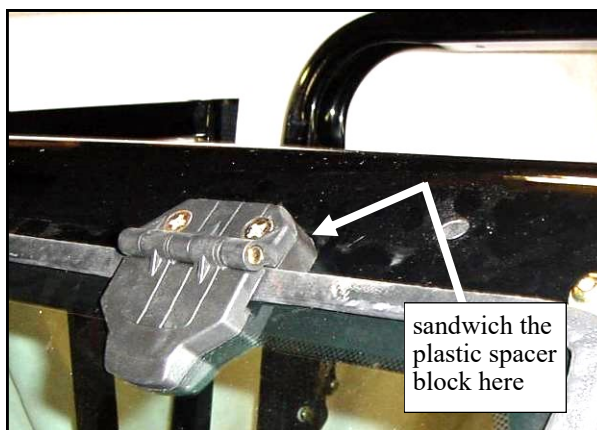

Fig. 9.1 (view from left front side of tractor)
9.1 See fig. 9.1. Have the following items ready: four 5-16 x 1-1/2" long flat head bolts, four flange locknuts, and two 5/8" thick plastic spacer blocks. With assistance, install the windshield hinges to the windshield support with the two spacer blocks between the hinge and the windshield support. Attach the windshield latches to the windshield latch receivers on the cowl by squeezing the spring-loaded pin ends and fitting them in place into the receiving holes.